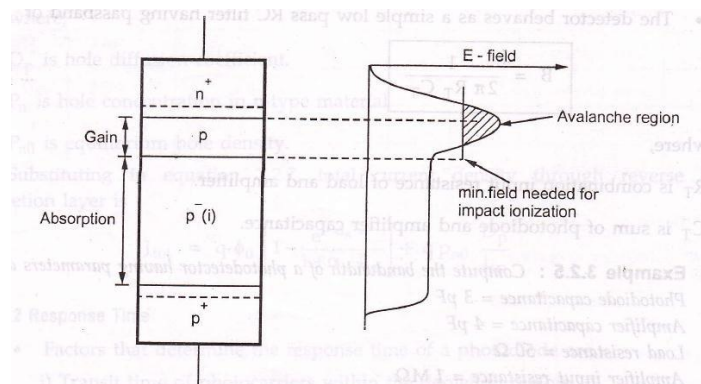

Fig. 3.2.5 APD schematic and variation of E-field across diode
- Fig. 3.2.5 shows the schematic structure of an APD. By virtue of the doping concentration and physical construction of the n+ p junction, the electric field is high enough to cause impact ionization. Under normal operating bias, the I-layer (the p- region) is completely depleted. This is known as **reach through** condition, hence APDs are also known as **reach through APD** or **RAPDs**.]